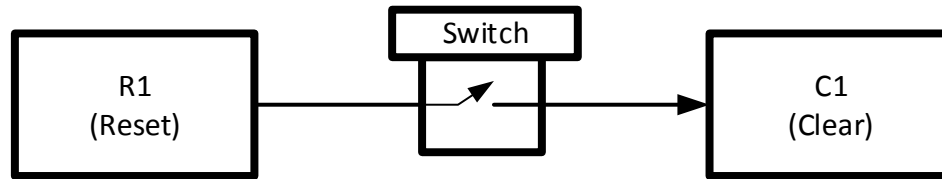

Figure 5: Mimic Switch Circuit
- b) If a manual register reset mechanism is employed, a reset mimic switch must be installed for each dispenser (See Figure 5). This switch must be housed in an explosion-proof cover and simply connects the Reset (R) terminal lug with the corresponding Clear (C) terminal lug. This is required so that customers can signal the dispenser is ready to sell fuel (register has been reset to zero) and can terminate a transaction once they are done fueling, without having to wait for a timeout. In most cases, a customer depends on this switch since a typical sale involves overestimating the amount of fuel required